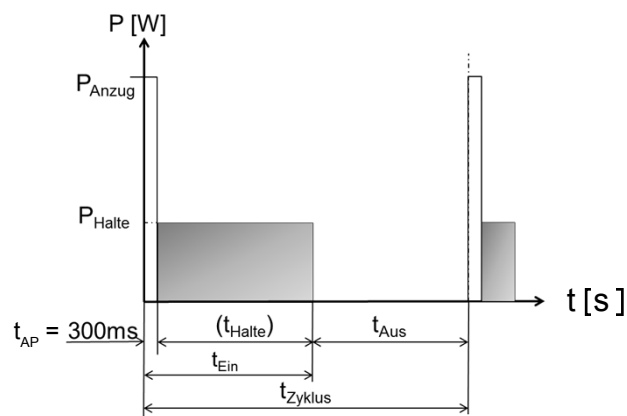

Fig. 3: Diagram
5. Max. operating time [s] (energization duration) $t_{\text{On}} = \text{_____ s}$ (see diagram fig. 3)